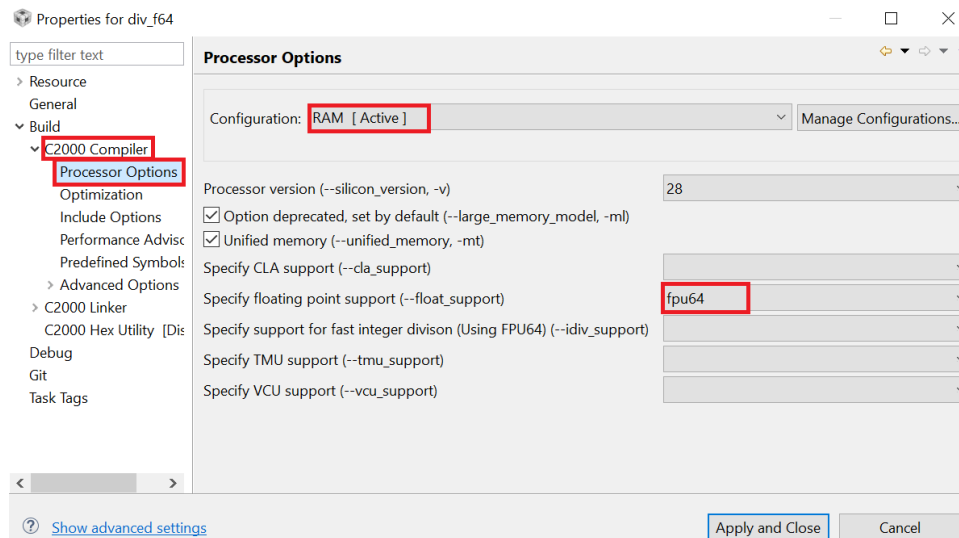

Figure 4.7: Turning on FPU64 support
3. For the double precision library set the **--float\_support** option to **fpu64** in the **Runtime Model Options** as shown in Figure 4.7.